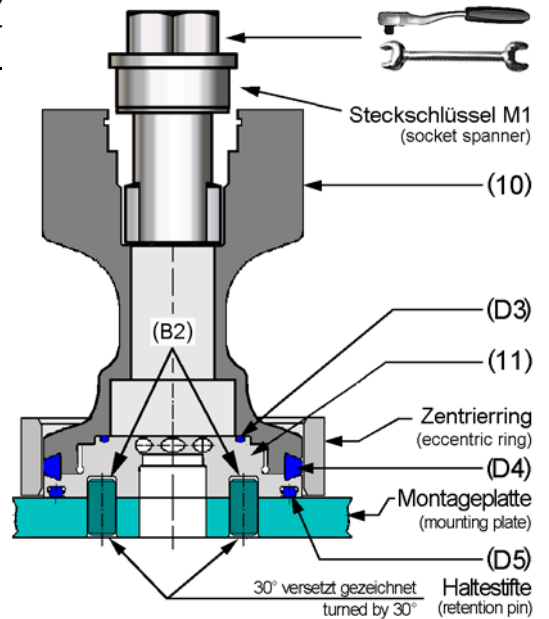
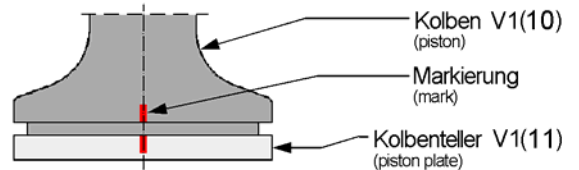

fig. 3
fig. 4
- Remove seal (D4), O-Ring (D6) and piston plate V2 (12).
- Unscrew the hexagon nut (16).
- Push lantern (14) in direction "X" until the hole (B1) is freely visible.
- Fix the mounting plate M6 with the retention pins in the piston plate V1(11) in the hole (B2) and hold against with the hook spanner M4 at the hole (B1). Unscrew the piston plate V1(11) with the piston V1(10).
- Push against direction 'X' the insert (7), the seal (D1) and the bearing bush (8) from the piston V1(10).
- Unscrew the piston V1(10) from the piston plate V1 (11) with the socket spanner M1 (see fig. 3 /page 8).
- Dismount the valve lift stop (15).
► Piston V1 (10), Piston plate V1 (11)
- Thoroughly clean and slightly lubricate mounting areas and running surfaces. (item (13) excluded please don't grease).
- Screw in piston plate V1(11) without the seal (D4) to the metal limit stop in the piston V1(10).
- Make a color marking at the piston surfaces and disassemble the piston V1(10) and the piston plate V1(11) (fig. 4 /page 8).
- Push the seal (D4) into the piston V1(10) and screw the piston plate V1(11) into the piston V1(10) by hand.
- Clamp the mounting plate into a vice and fix the piston plate V1(11) (see fig. 3 /page 8).
- Position the eccentric ring M3 on the seal (D4) (see fig. 3 /page 8).
- Position the socket spanner M1 and screw the piston V1(10) up to the final limit mark (fig. 4 /page 8).
- Screw in piston plate V2(12) without the seal (D4) to the metal limit stop in the piston V2(13).
- Make a color marking at the piston surfaces and disassemble the piston V2(13) and the piston plate V2(12) (fig. 4 /page 8).
- Push the seal (D4) into the piston plate V2(12) and mount it into piston V2(13).
- Screw the piston V2(13) up to the final limit mark in the piston V1(10).